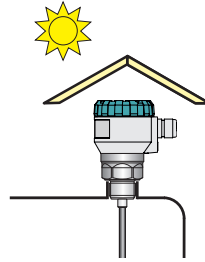

Fig. 10: Weather protection against direct sunlight
- The product must not be installed in locations with direct sunlight and must be protected from the elements. Use suitable weather protection for outdoor installations (Fig. 10).